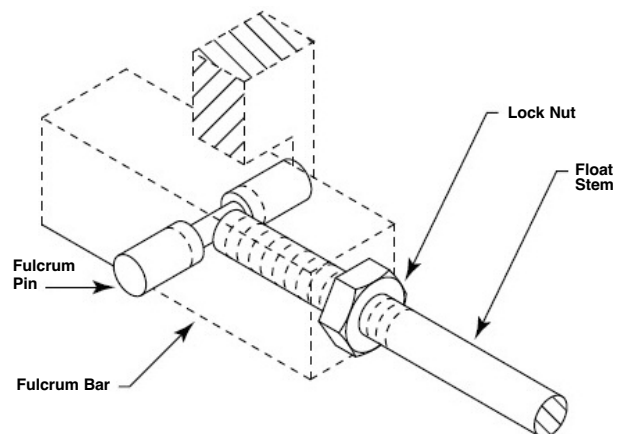

Figure 2
Before installation, assemble float and stem to sensing unit. See **figure 2**.
2. Make sure end of float stem sets completely in groove of fulcrum pin as shown in **figure 2**.